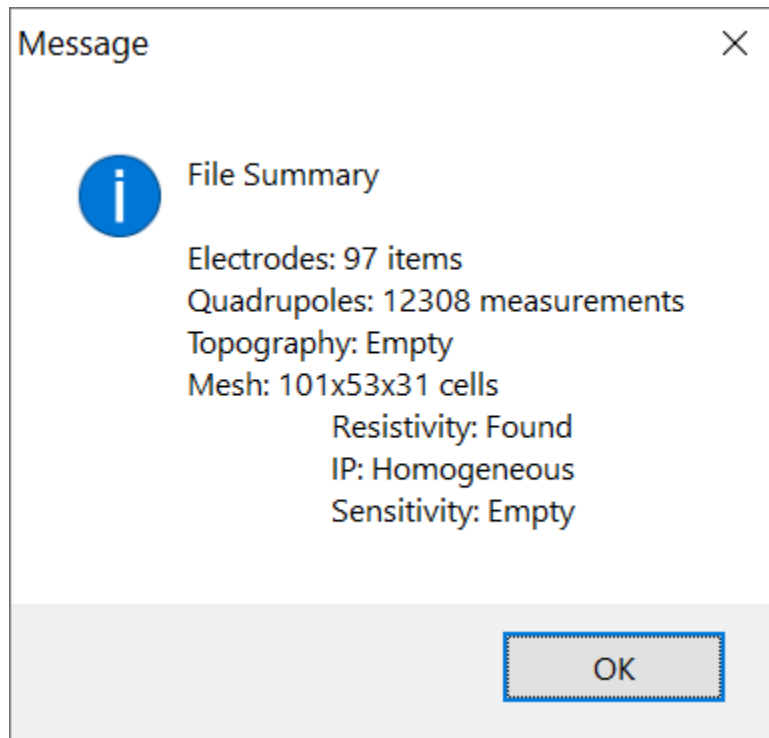

Figure 9.8: Example of Summary File message
- **Show Project Info:** it opens a window with the *File Summary* (Figure 9.8). Information about the number of electrodes and measurements of the project, the dimension of the mesh and the possible presence of topography file, and Resistivity/IP/Sensitivity Models are reported. Originally, Resistivity IP and Sensitivity are “*Empty*” because no inversion has been computed yet. When a Resistivity/IP inversion is computed the proper menu items become enabled, because it is recognized the presence of an inverted Model. For the IP menu there is an intermediate state: “*Homogeneous*”. It suggests that there is a unique IP value coming from the generation of the mesh (and therefore the project contains IP measurements), but the inversion has not been computed yet. In the following table all the possible cases are summarized.
In the example in Figure 9.8 the loaded project: